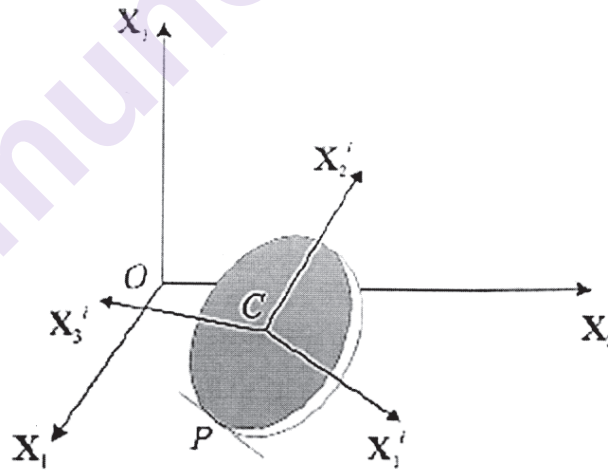

Figure 1b
- b) For the rolling disc shown in the Figure 1b, Discuss the constraints applied. [9]